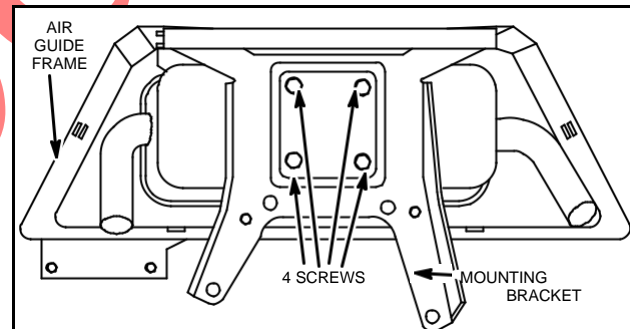

Fig. 7 – Remove Muffler
Muffler is held to muffler mounting bracket with four (4) screws, Fig. 7. Penetrating oil may be required to prevent muffler mounting screw threads from stripping.